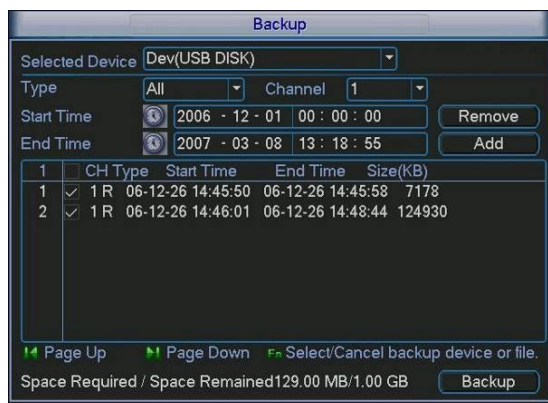
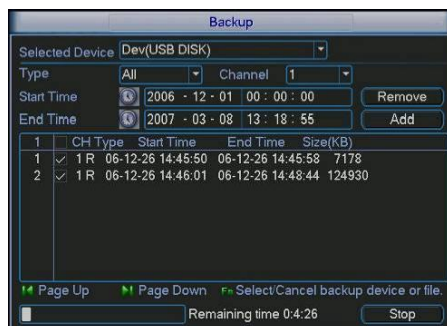

Figure 4-26
Figure 4-27
- Period: Click set button and you will see an interface as shown in Figure 4-23. Here you can set a business day or non-business day. In Figure 4-26, click set button to display an interface as shown in Figure 4-27. Here you can set a business day or non-business day.
Click add button, system begins search. All matched files are listed below. System automatically calculates the capacity needed and remaining. See Figure 4-26.
Click backup button, system begins burning. At the same time, the backup button becomes a stop button. You can view the remaining time and progress bar at the bottom left. See Figure 4-27.